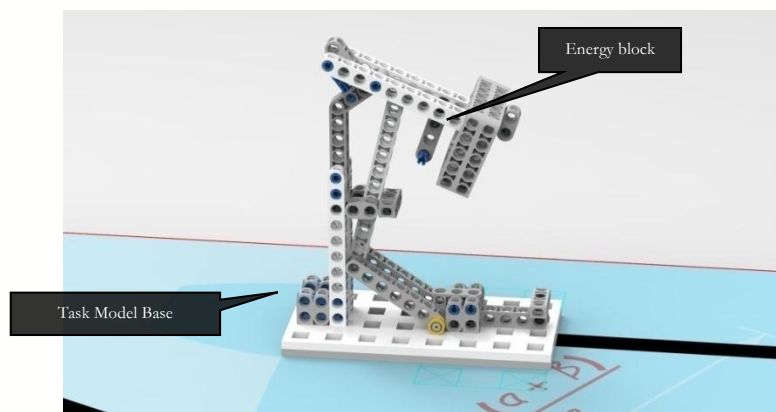

Figure 2 Energy block on the task model
3.1.1. 2 energy blocks will be placed on the task model, as shown in Figure 2.